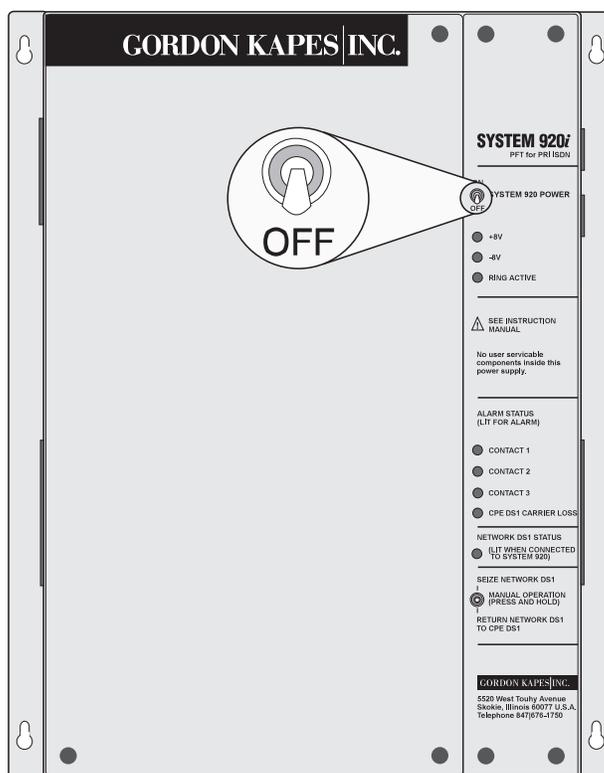

Figure 2-4. Ensure Power Switch is in Off Position
- ❑ Ensure the power switch on the System 920i (shown in Figure 2-4) is in the Off (down) position.